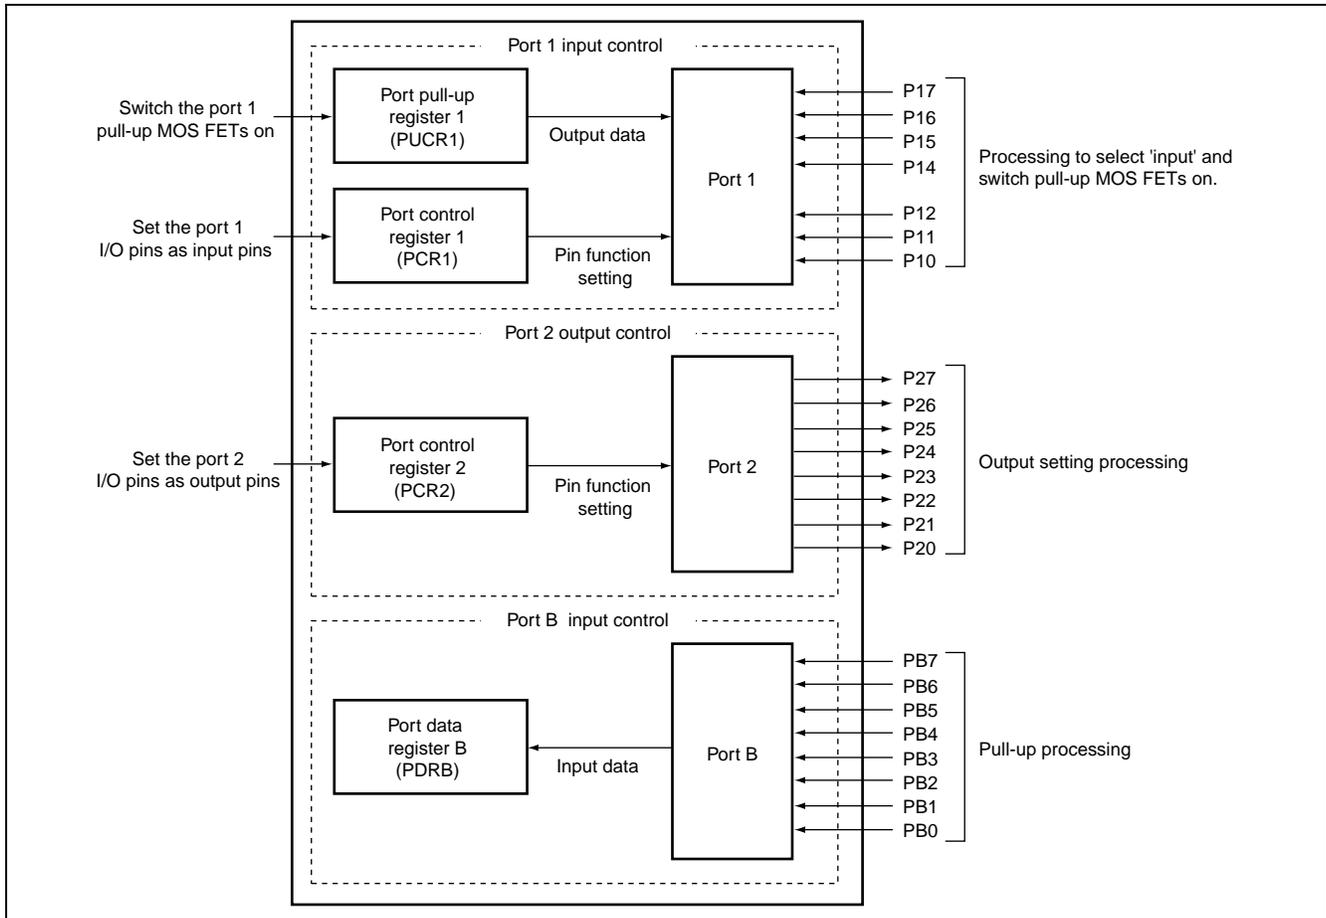

Figure 2.1 Settings for Open Pins on Ports 1, 2, and B
- Input/output ports with pull-up MOSFETs: The pull-up MOSFETs are turned on.Figure 2.1 shows examples of the states of representative ports.